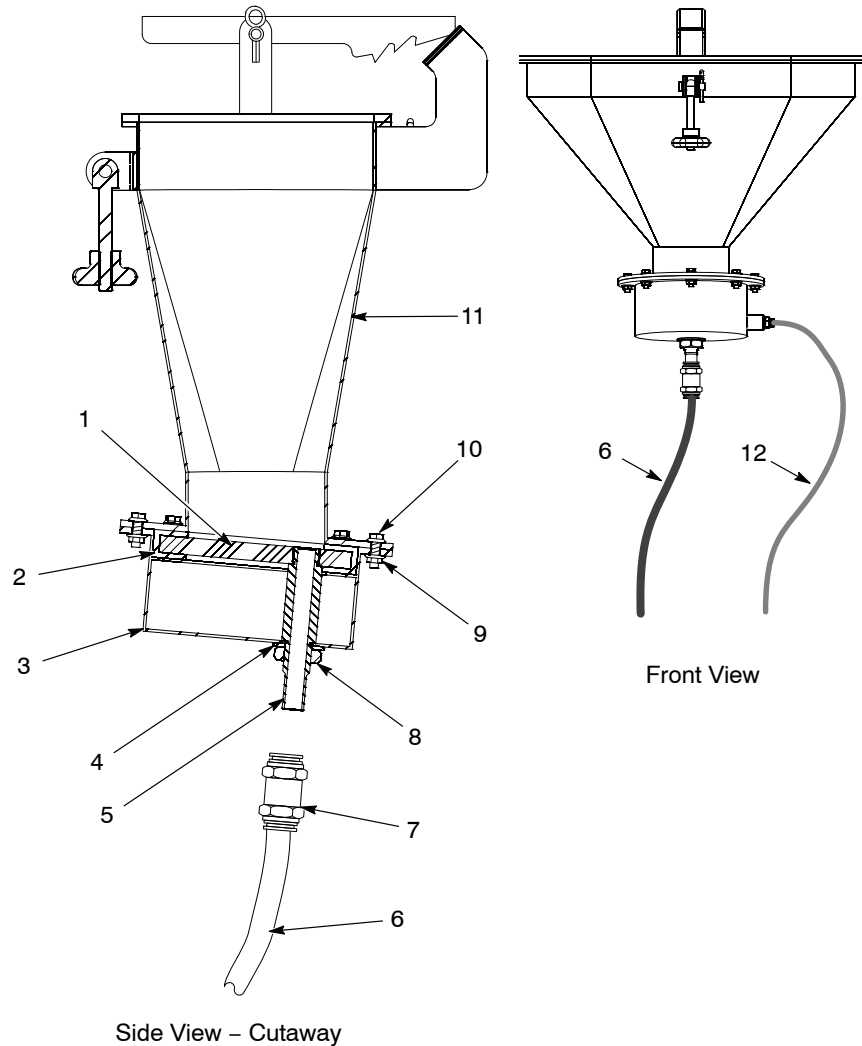

Figure 6-1 Cyclone Transfer Pan
1. See Figure 6-1. Disconnect the fluidizing air tubing (12).
2. Disconnect the 16-mm powder tubing (6) from the bulkhead union (7). Disconnect the bulkhead union from the discharge tube (5).
3. Remove the plenum (3) from the transfer pan (11) by removing the eight bolts (10) and nuts (9).
4. Remove the jam nut (8) and sealing washer (4) from the discharge tube. Use two wrenches: one on the flats of the discharge tube and the other on the jam nut.
5. Lift the fluidizing plate (1) with gasket (2) and discharge tube out of the plenum. Unscrew the discharge tube from the fluidizing plate.